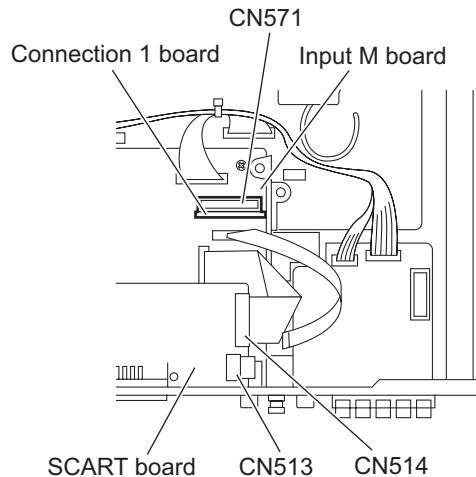

Fig.10
- (2) From the top side of the main body, disconnect the card wires from the connectors (CN513, CN514) on the SCART board. (See Fig.10)
- (3) Take out the SCART board.
(See Fig. 10)